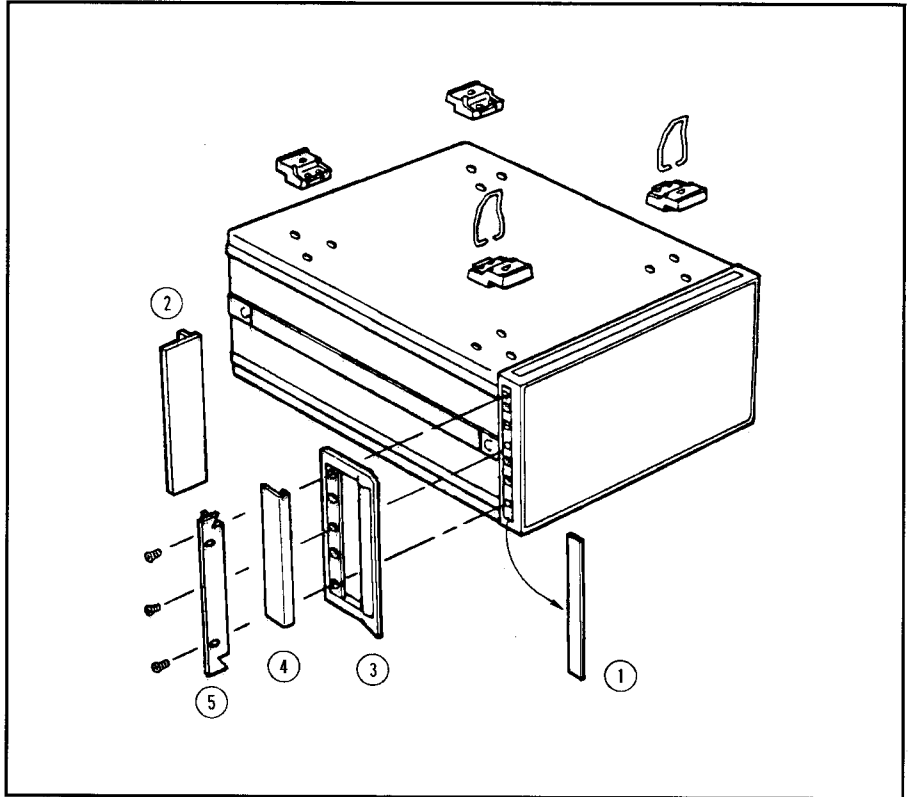

Figure 1-3. Rack Mount Kits Installation
The analyzer can be rack mounted and used as a component in a measurement system. Figure 1-3 shows how to rack mount the 4278A.
1. Remove the adhesive-backed trim strips ① from the left and right front sides of the 4278A. (Refer to Figure 1-3.)
2. Attach the front handles ② to the sides using the screws provided.
3. Attach the trim strips ③ to the handles.
2. Attach the rack mount flange ④ to the left and right front sides of the 4278A using the screws provided.
3. Remove all four feet ⑤ (lift bar on the inner side of the foot, and slide the foot toward the bar.)